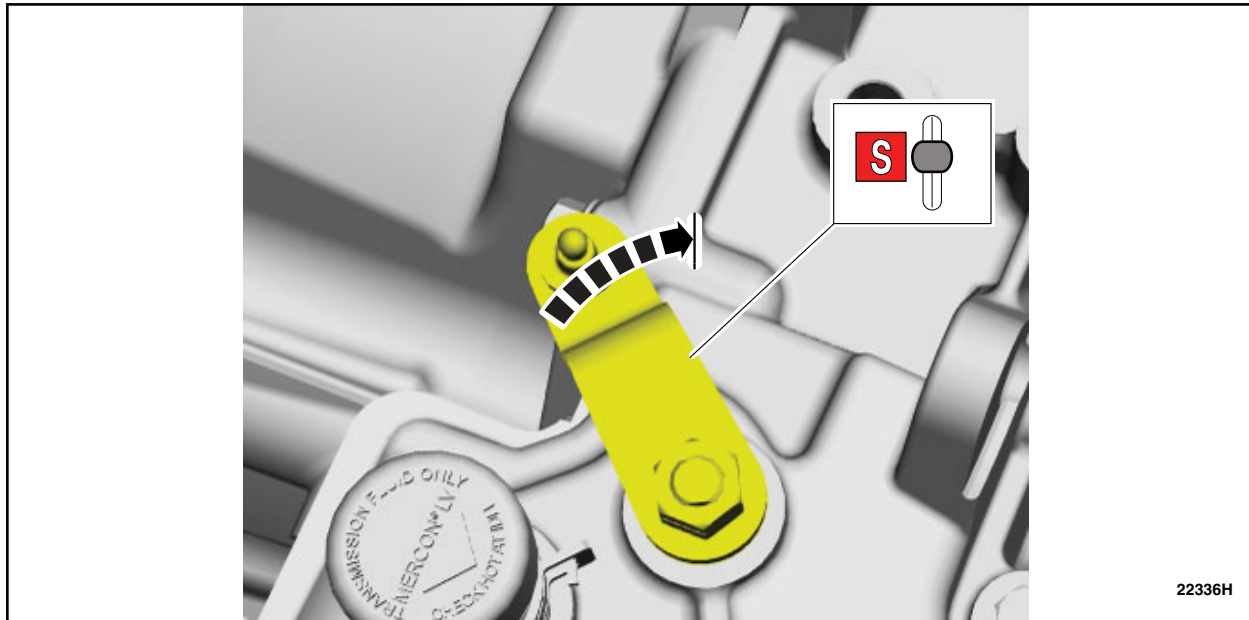

FIGURE 8
9. Rotate the manual control lever clockwise until it stops. See Figure 8.